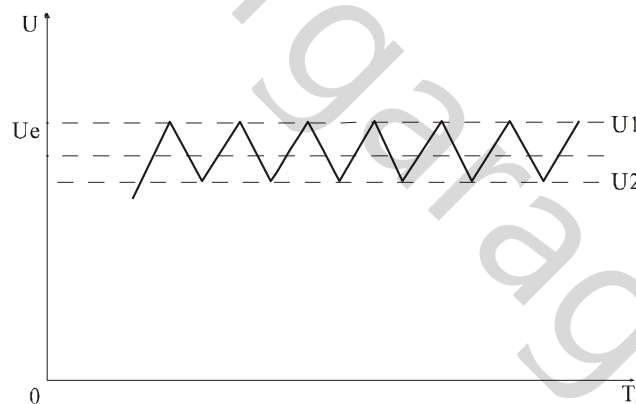

Fig.12-19 Generator's Voltage Waveform Adjusted by the Regulator under a Certain Rotating Speed
2) When the engine reaches a certain rotating speed and the voltage of generator reaches the operating voltage of regulator, the electronic circuit of regulator disconnects the high-power triode, which leads to repeated alternate conversions, makes the voltage of generator fluctuated within a certain upper and lower limit (refer to Fig.12-19), and keeps its mean voltage stabilized to the set value.